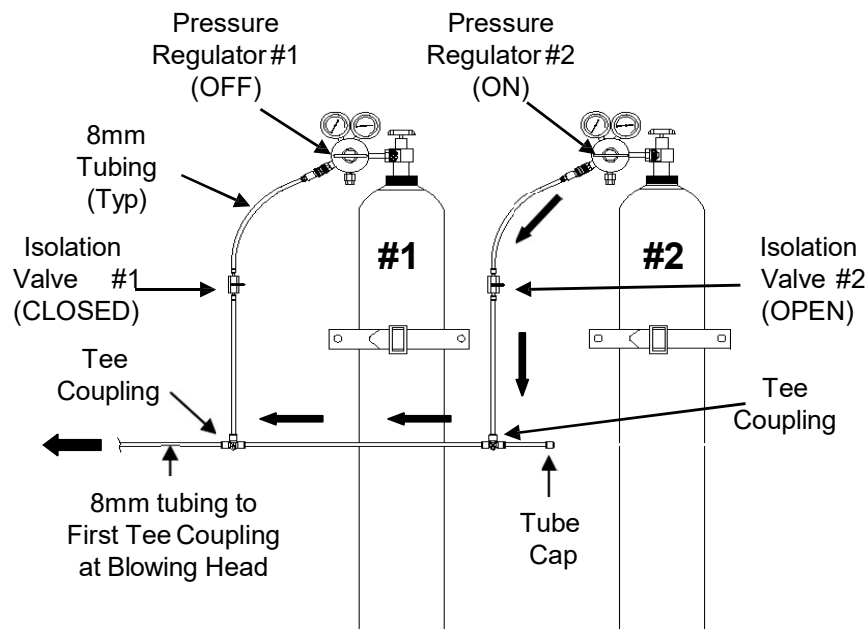

Figure 14
15.6 When fiber bundle forward progress begins to decline, quickly and simultaneously close Isolation Valve #1 and open Isolation Valve #2. This action switches the tanks and keeps a constant supply of gas supplied to the Blowing Head Air Motor and tube span through the "First" Tee Coupling. **See Fig. 14.**